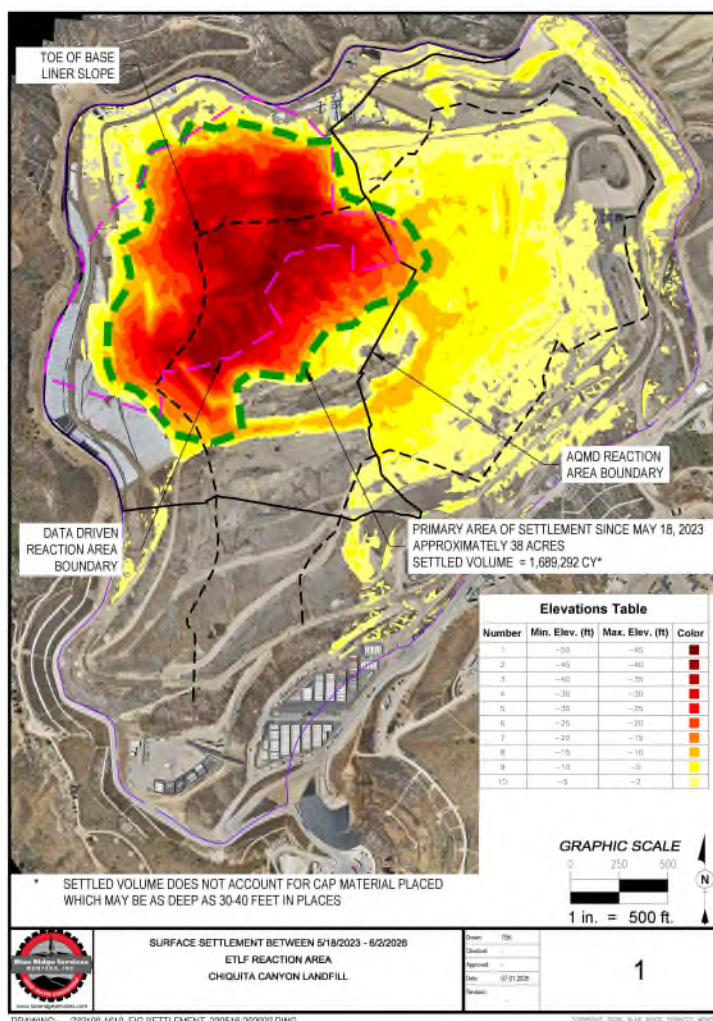
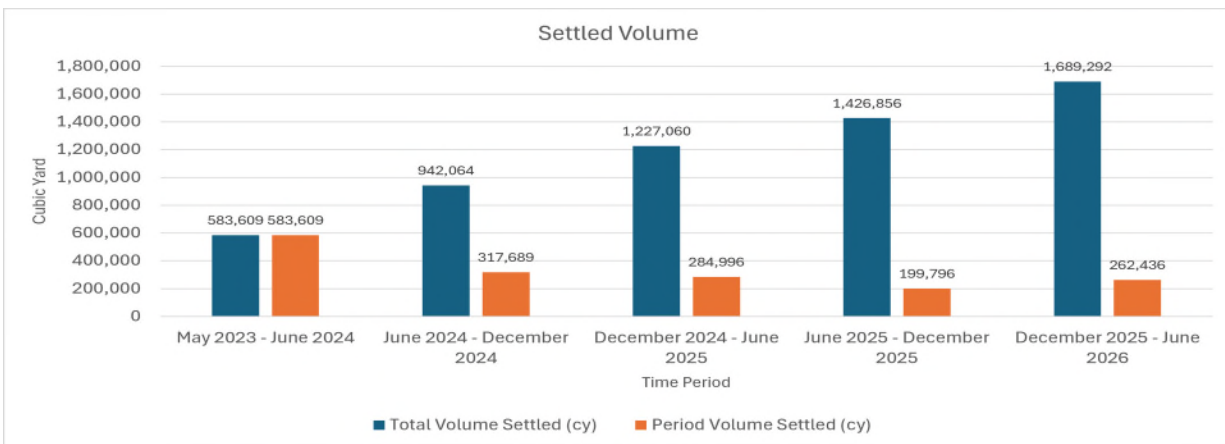

Figure 6 - Settlement
Figure 7 - Settlement for each semi-annual report.
ETLF conditions can result in portions of a landfill settling very quickly (See Figure 6). Settlement continues within the area of the reaction. We have maintained the same assumptions used in the previous report, as related to settlement, except for the change in the amount of settlement, as discussed in this Section on Settlement. These assumptions are:
5. In the previous report (January 7, 2026), we reported that a total of 1,426,856 cy of settlement had occurred since May 18, 2023. An additional 262,436 cy of settlement has occurred during the intervening 5½-month period, from December 17, 2025 through June 2, 2026. This rate of change is similar to what we have noted in the previous three reports (See Figure 7). The latest settlement figures bring the total settlement from May 18, 2023 through June 2, 2026 to 1,689,292 cy (See Figure 6 above). This amount is conservative because it does not account for the volume of soil placed in settled areas to maintain positive drainage, repair stress cracks in the soil cover, support the west slope buttressing project initiated earlier this year, and address other operational needs. Please note that the first column represents settlement over approximately 13 months and is likely understated because of the massive volume of soil that was initially placed on settled portions of the reaction mitigation area.